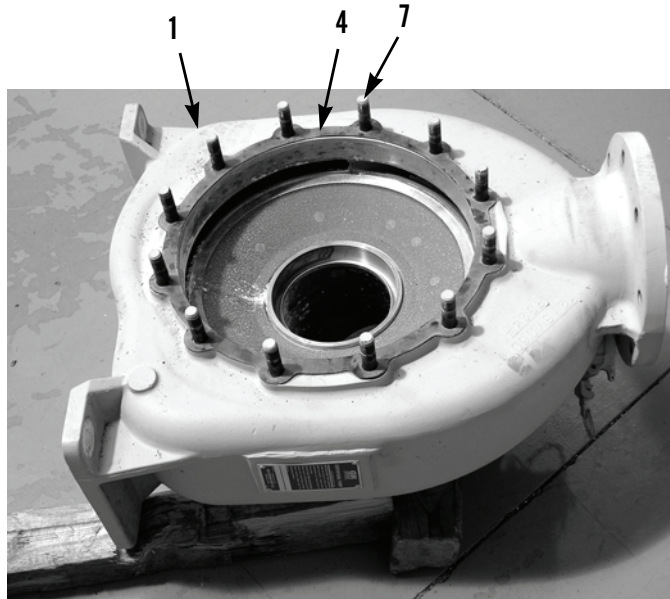

Figure 24. Pump Casing Gasket.
19. Place pump casing (Figure 24, Item 1) in horizontal position. Install new gasket (Figure 24, Item 4) over studs (Figure 24, Item 7) at pump casing.